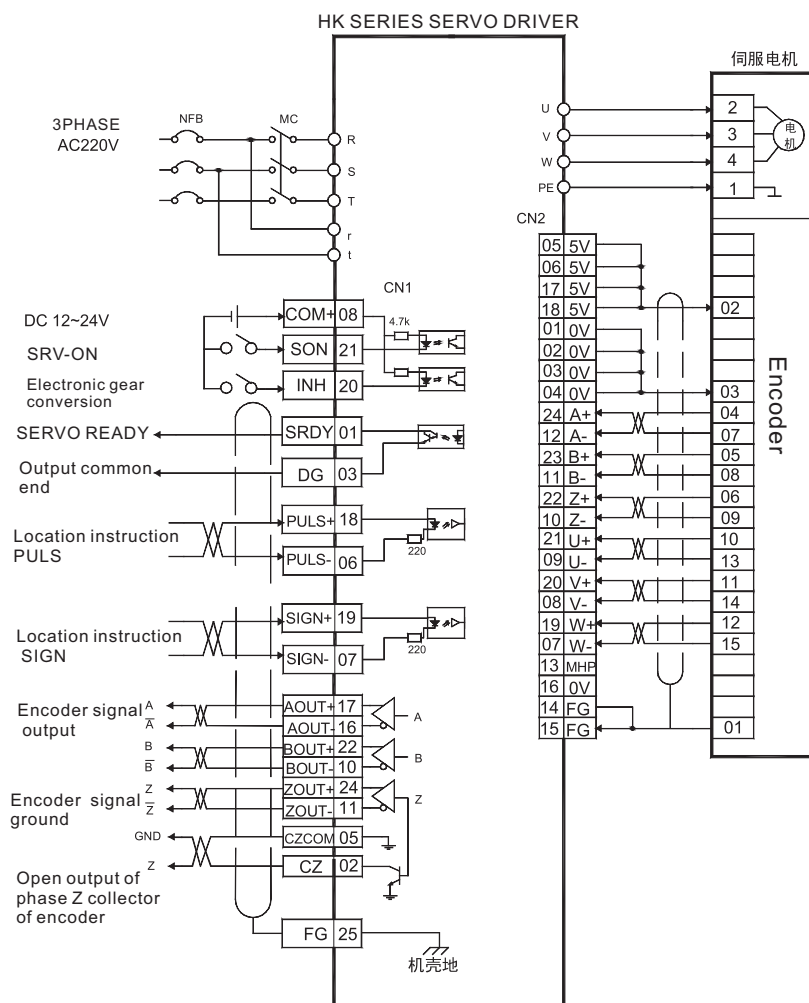

Figure 7.10 Wiring diagram of dynamic electronic gear
- Wiring according to figure 7.10 main circuit terminal , three-phase AC220V terminals R/S/T